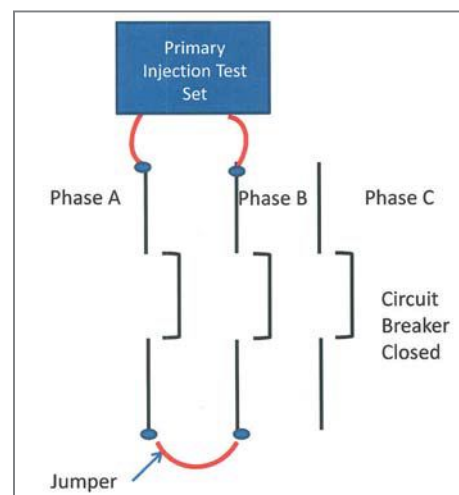

Figure 1: Low-Voltage Circuit Breaker Testing Scheme
1. D. Figure 1 shows a test connection designed to defeat the trip unit ground fault (GF) function by injecting current in one phase and out in the opposite direction through a second phase. This causes the GF element to see a net current of zero. There are various methods to defeat GF, depending on manufacturer, model and generation of the OCPD. Older GF elements were often defeated by placing a jumper between two terminals on the trip unit. Later, a cable was needed to defeat the GF element. Some manufacturers required using a secondary injection test set. A better way to defeat GF during primary injection is similar to that in Figure 1, except that the return is through the two other poles in parallel. The reason to go through the extra work is to cause test current in other poles to be substantially lower than the one being tested.